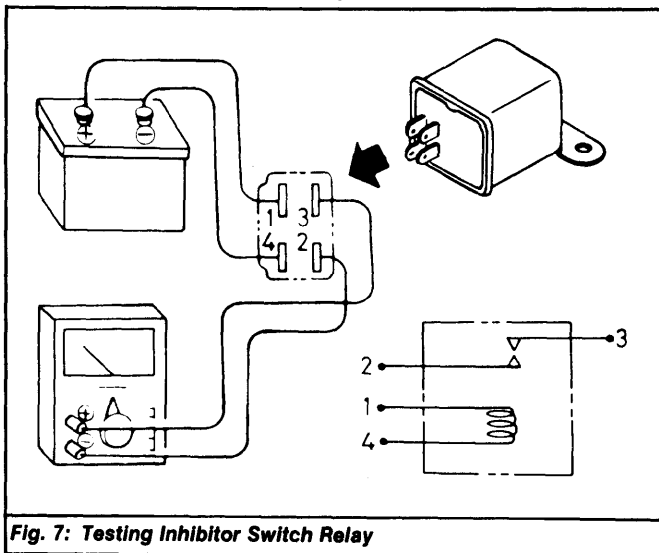

Fig. 7: Testing Inhibitor Switch Relay
10) If all test are okay, repeat step 5). If voltmeter does not deflect from 12 volts to zero (0) volts, replace Neutral switch.
11) To check inhibitor relay (Auto. Trans.), apply 12 volts across terminals No. 1 and 4. See Fig. 7. Make sure continuity exists between terminals No. 2 and 3. With no voltage applied, check that no continuity exists between terminals No. 2 and 3. If not, replace relay.
8) Reconnect vacuum switch connector. Repeat test steps 2) through 4). If voltmeter needle does not deflect from 12 to zero (0) volts, Neutral switch (Man. Trans.) or inhibitor switch (Auto. Trans.) is defective and should be replaced.
9) To check inhibitor switch relay on automatic transmission models, remove relay from fender well, next to battery. Apply 12 volts across relay terminals No. 1 and 4. See Fig. 7.